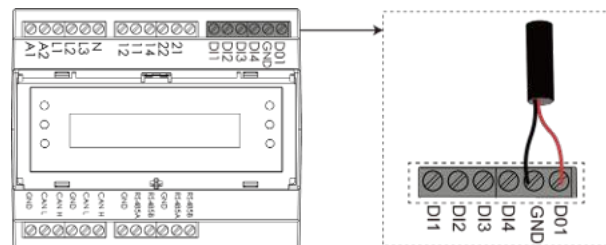

Fig. 59. Connect the network cable to Powador-protection device
1. Strip the insulation of the other side from the network cable and screw copper wire to the corresponding terminal of the Powador-protection device. Screwdriver type: SL1.5, tightening torque: 0.6 Nm (see Fig. 59).